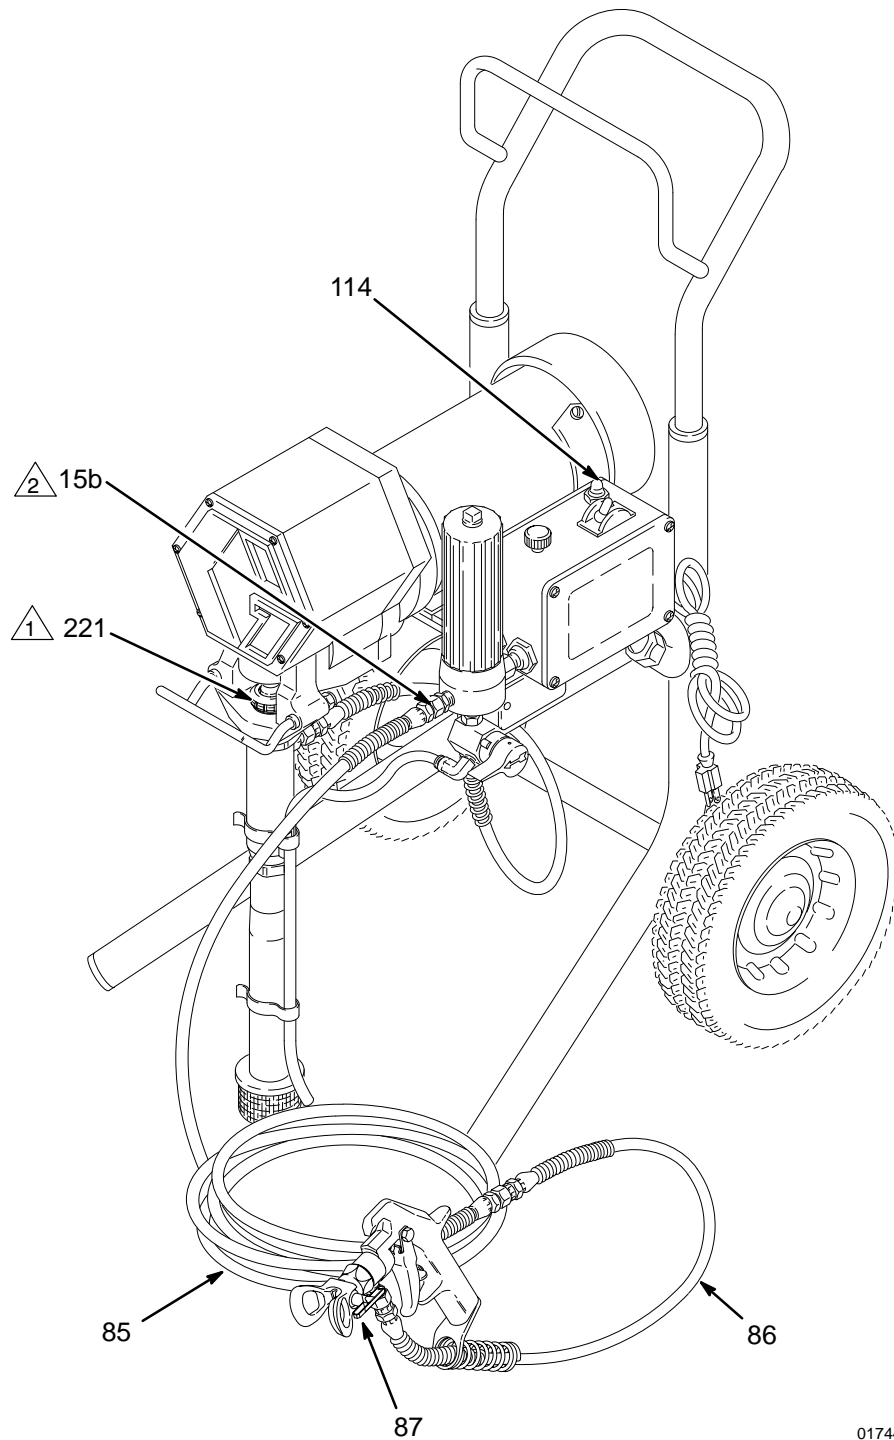

Fig. 1
1. Always use grounded, flexible spray hose (85) at least 50 ft (15 m) long.
3. Never install any shutoff device between the filter (15) and the main hose. See Fig. 1.